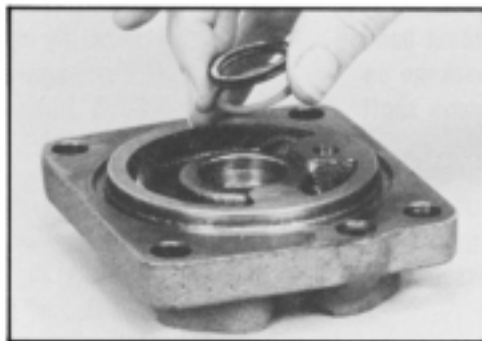
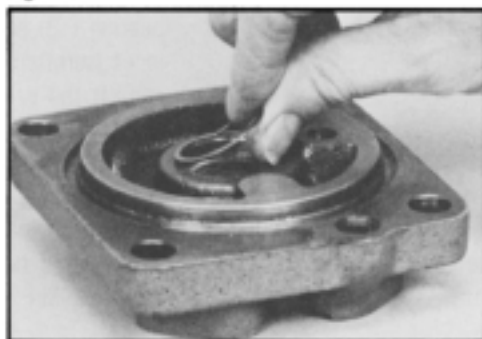

Figure 113
Figure 114
13. Assemble back up washer (20) and then **new** seal (21) into adaptor (18) so that seal lip is facing out of seal cavity. SEE FIGURE 113. Assemble retaining ring (22). SEE FIGURE 114.